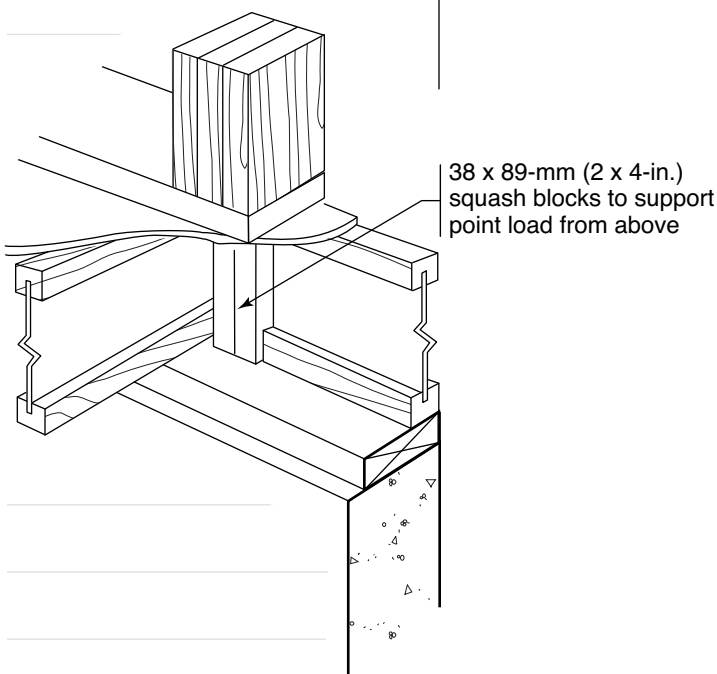

FIGURE 10
- ◆ Install solid blocking under all concentrated loads to carry the load to bearing walls, beams, or the foundation. Jack studs supporting lintels, and columns supporting beams, are the most common situations where concentrated loads are found (see Figure 10).